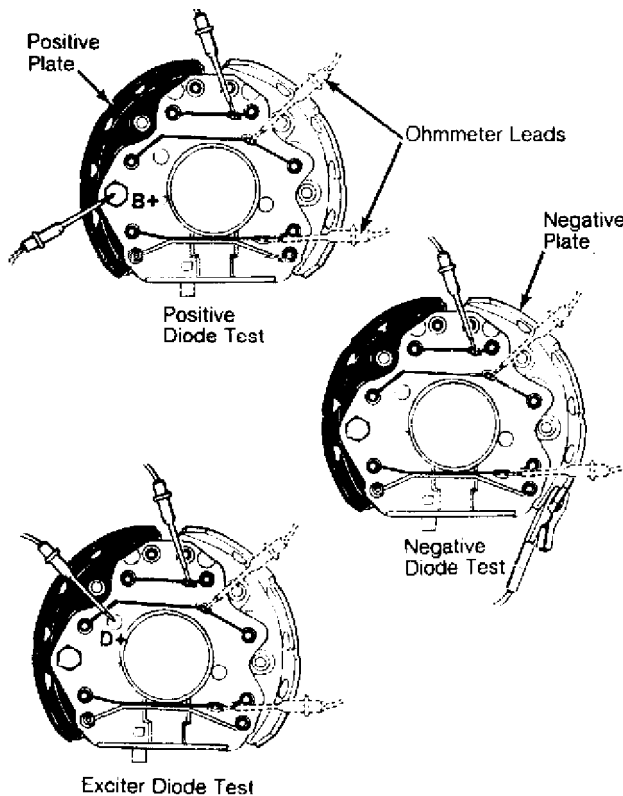

Fig. 1: Bosch Diode Assembly Test
2) Connect ohmmeter leads across negative plate and 3 stator terminals one at a time. See Fig. 1. Reverse leads. Ohmmeter should indicate continuity in one direction only.